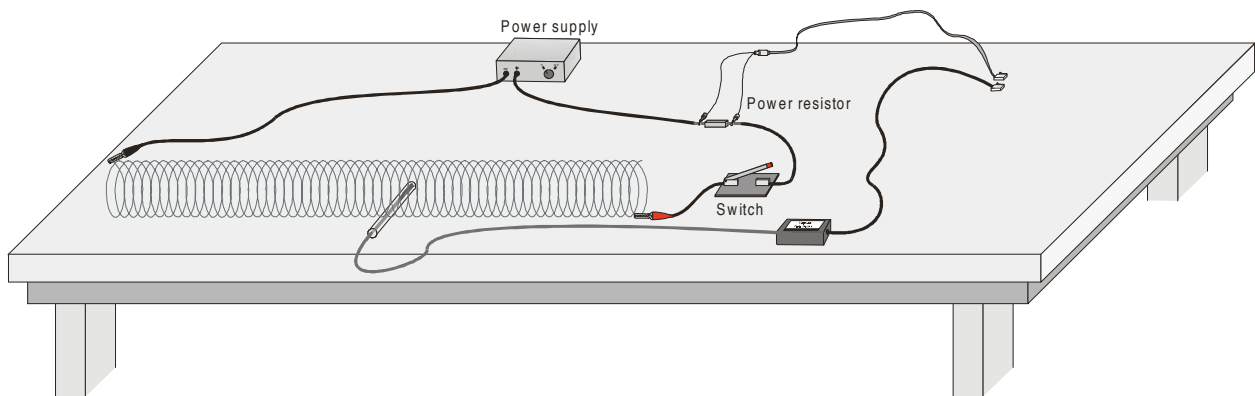

Figure 1
2. Set up the circuit and equipment as shown in Figure 1. Connect the Voltage Probe across the resistor, with the positive (red) lead on the side of the resistor connecting to the positive side of the power supply. Wires with clips on the end should be used to connect to the Slinky.
- f. Choose of HI MAGNET FLD(MT) from the MAGNETIC FIELD list.
For the second part of the experiment, you will determine the relationship between the magnetic field in the center of a coil and the number of turns of wire per meter of the solenoid. You will keep the current constant. Leave the Slinky set up as shown in Figure 1. Position sensor as it was before, so that it measures the field down the middle of the solenoid. You will be changing the length of the Slinky from 0.5 to 2.0 m to change the number of turns per meter.